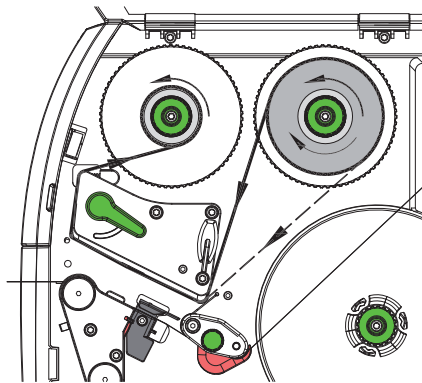

Figure 26 Transfer ribbon feed path
5. Hold transfer ribbon roll (1) firmly and turn knob on ribbon supply hub (3) counterclockwise until the transfer ribbon roll is secured.
6. Slide suitable transfer ribbon core (4) onto the transfer ribbon take-up hub (5) and secure it in the same way.
7. Guide transfer ribbon through the print unit as shown in Figure 26.
8. Secure starting end of transfer ribbon to the transfer ribbon core (4) with adhesive tape. Ensure counterclockwise rotation direction of the transfer ribbon take-up hub here.
9. Turn transfer ribbon take-up hub (5) counterclockwise to smooth out the feed path of the transfer ribbon.
10. Turn lever (6) clockwise to lock the printhead.